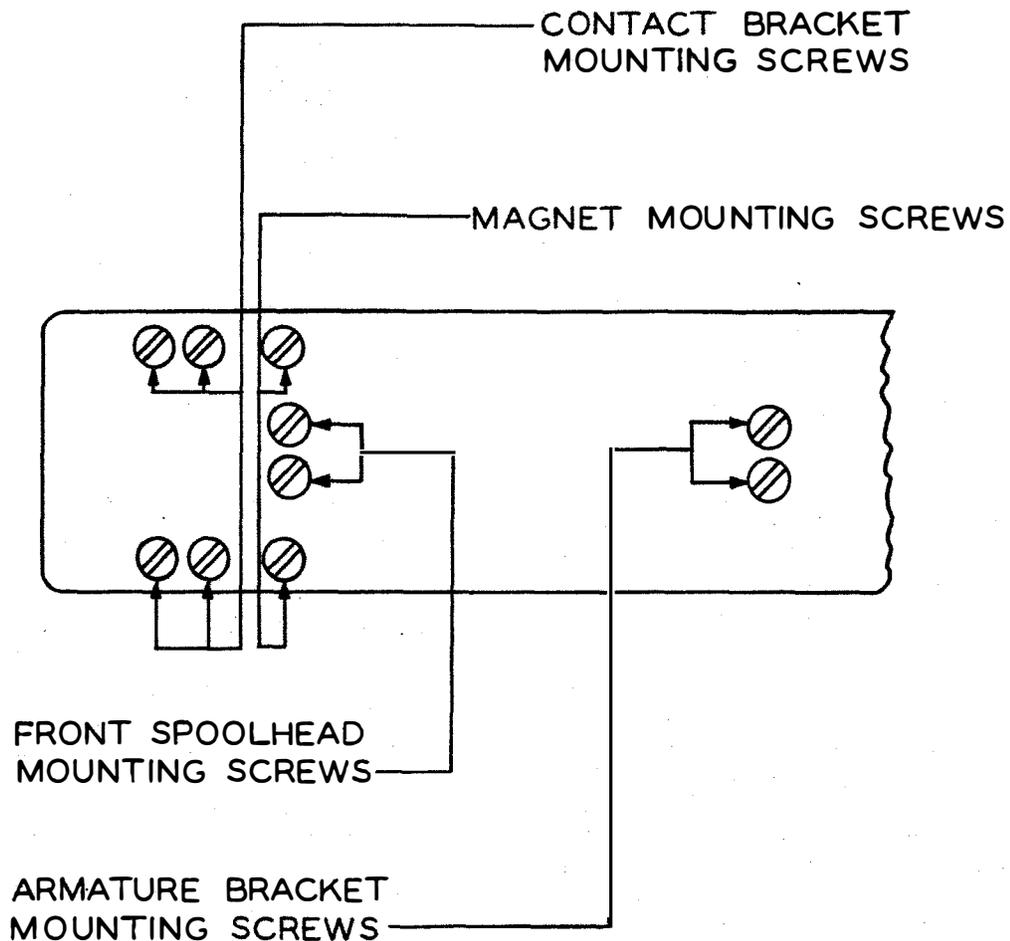

Figure 5 - Frame of 215H and 255A Relays
To Adjust: Loosen the two pole-piece mounting screws and the two armature-bracket mounting screws. Move the armature bracket. Tighten the two pole-piece mounting screws. (See Figure 5.)
To Adjust: Loosen the two front spoolhead mounting screws and move the coil. Tighten the four screws holding the spool to the base (frame) of the relay. See Figure 5 for identification of parts.
- (6) Put in the contact screws. (See Figure 5.)